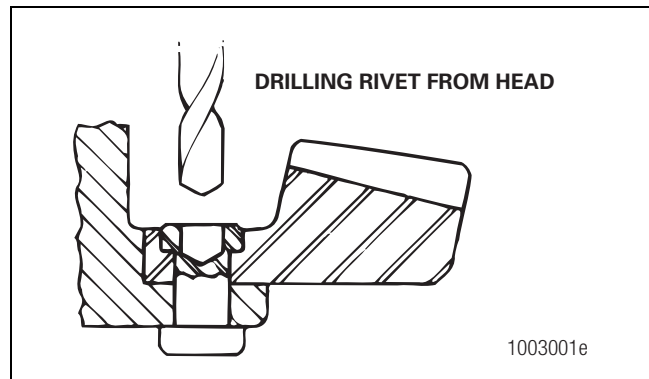

Figure 3.50
- B. Drill each rivet head on the ring gear side of the assembly to a depth equal to the thickness of one rivet head. Use a drill bit that is 0.0312-inch (0.8000 mm) smaller than the body diameter of the rivets. Figure 3.50.